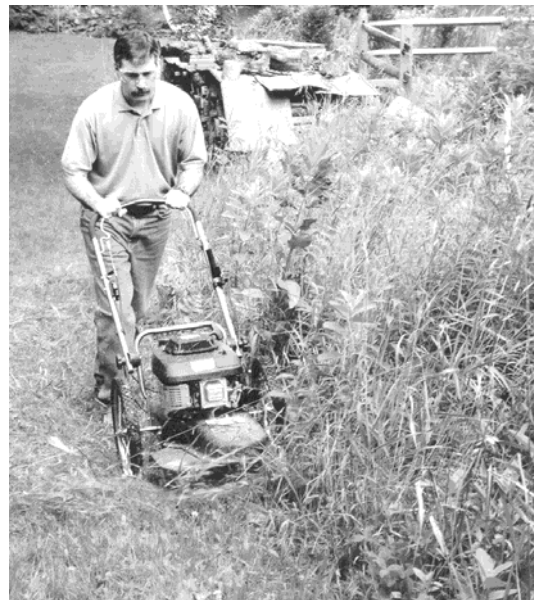

*Figure 18*
- Many owners like to mow easy, open areas with their regular riding or walk-behind mower and finish trimming all the odd and hard-to-reach spots with the DR TRIMMER/MOWER (*Figure 18*).